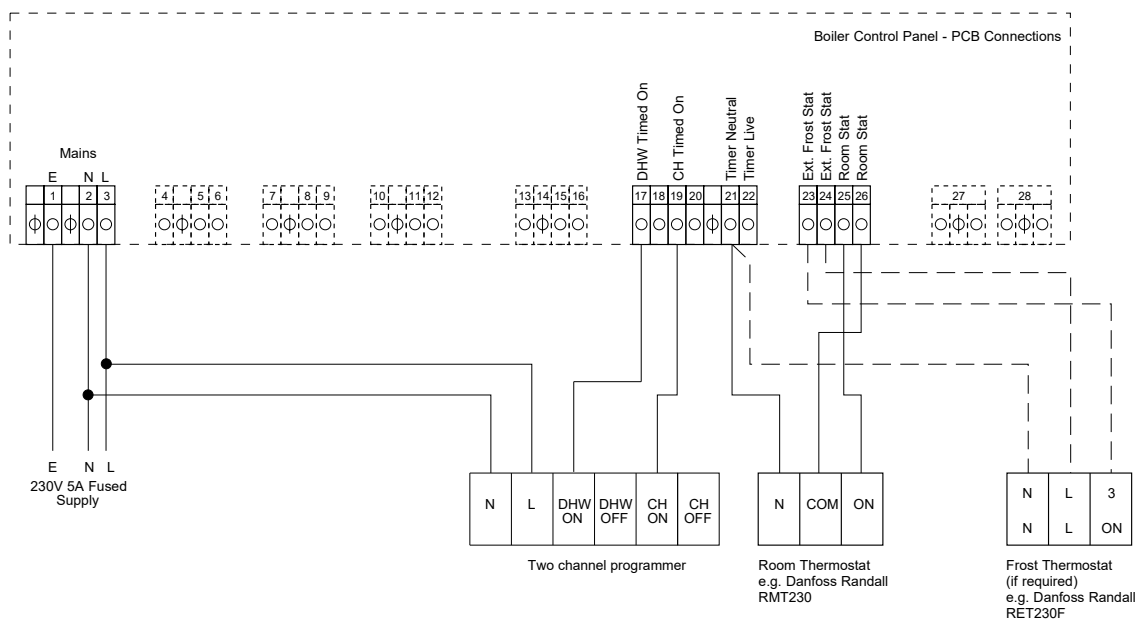

Figure 8-4: Connections for remote two channel programmer and room thermostat
The remote two-channel programmer must be suitable for 230V and internally linked. Refer to Figure 8-4 for connection details.
6. Remove the Orange room thermostat link wire from terminals 25 & 26 on the connection block and connect the wires from the room thermostat. Refer to Figure 8-4 for further details
9. Connect the two switch wires from the programmer as shown in Figure 8-4.
10. Connect the live, neutral (and earth if required) from the timer to terminals 3, 2 & 1 respectively on the boiler terminal block. Refer to Figure 8-4 for further details.